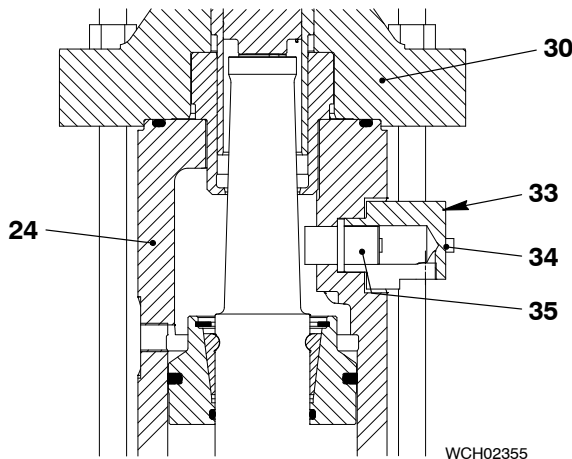

Fig. 7
- The valve stroke sensor (35, Fig. 7).
- The transmitter housing (33).
- The bore and collar in the housing (30).
- 2) Attach the transmitter housing (33) to the bottom housing (24) with the two screws (34).
- 3) Connect the electrical connection to the valve stroke sensor (35).